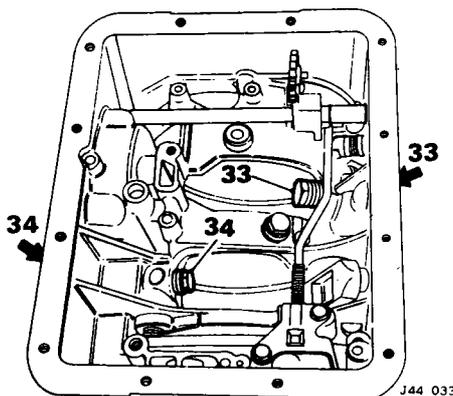

Fig. 32
33. Slacken the locknut and unscrew the front brake band adjuster screw; recover brake band strut (Fig. 32).
34. Slacken the locknut and unscrew the rear brake band adjuster screw; recover the brake band strut (Fig. 32).